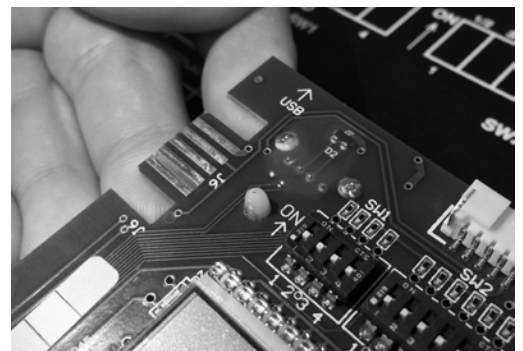

Figure 3
4. Gently pull up on the display board to release it from the four plastic posts (Figure 3).